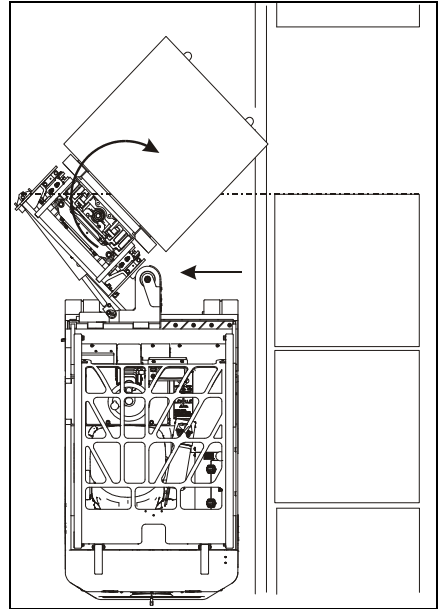

Figure 4-17: Unloading
6. Pivot the mast out (to the right) about 45° while shifting to the left as far as aisle space will allow. **See Figure 4-17.** Be careful not to hit the opposing rack.